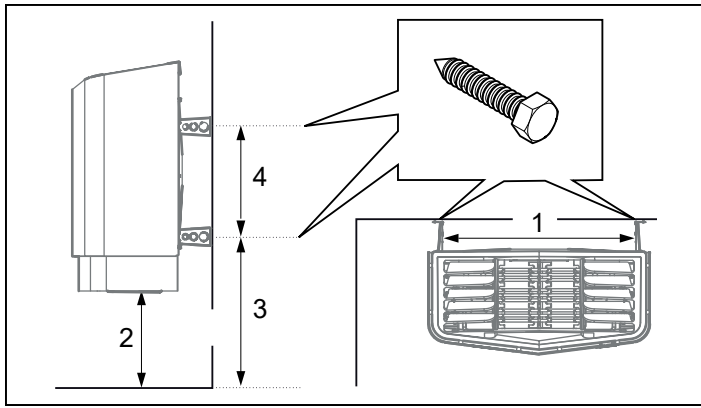

Figure 18: Dimensioning
6. Position the bracket screws according to the specified dimensioning see Fig. 18.